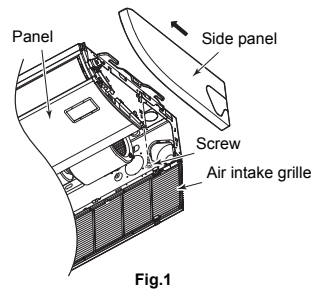

Fig.1
1. Remove a screw, move the side panel toward you (direction of arrow), and then remove the side panel. (Fig. 1)